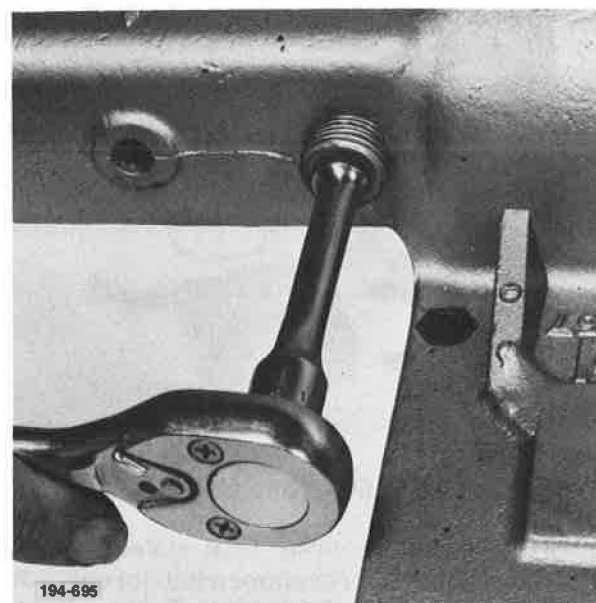

Figure 5-860. Installing Plug
17. Install interlock plunger plug into shift cover. See Figure 5-860.